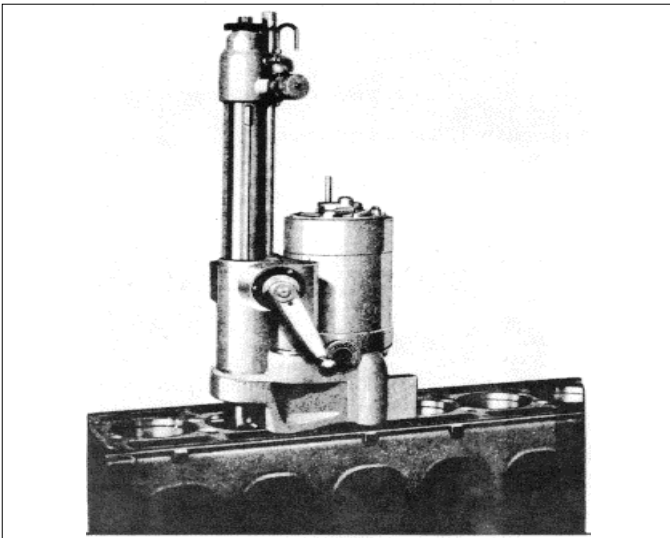

Fig. 15
- (3) The liner-to-block clearance with new parts is zero to .0015" (cast iron block). With used parts, the maximum clearance is .0025" (cast iron block). After measuring the block bores, measure the outside diameter of the cylinder liners (SM6-5-22.0). Then determine the block-to-liner clearances (refer to SM6-5-70.0 for the specified clearances) and whether it will be necessary to bore the block for oversize cylinder liners.
- (4) If necessary, bore the cylinder block as follows:
- (b) A typical commercially available portable boring bar is illustrated in Fig. 15. Instructions on correct use of the boring bar are provided by the manufacturer.